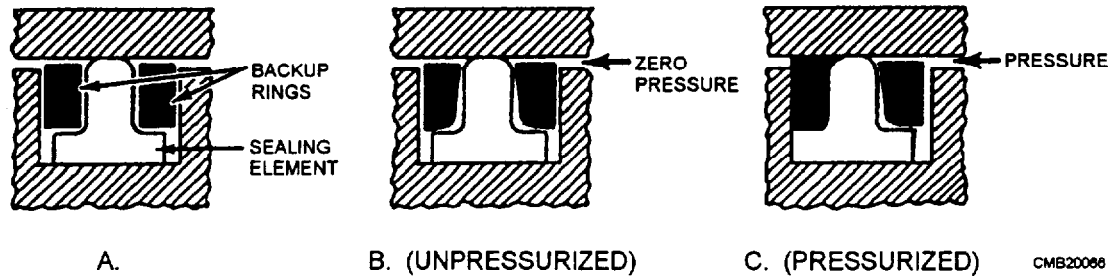

Figure 3-44.—T-seals.
**T-Seals.** —The T-seal has an elastomeric bidirectional sealing element resembling an inverted letter *T*. This sealing element is always paired with two special extrusion-resisting backup rings, one on each side of the *T*. The basic T-seal configuration is shown in figure 3-44, view A. The backup rings are single turn, bias cut, and are usually made of TEFLONTM, nylon, or a combination of TEFLON and nylon. Nylon is widely used for T-seal backup rings because it provides excellent resistance to extrusion and has low friction characteristics.